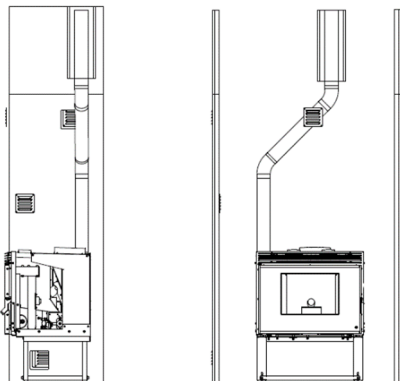

Figure 3 - View installation with chimney
- As shown in figure 3, the installation of the pellet insert brings the exhaust pipe (ϕ 80 mm) directly into the chimney. If the chimney is too large, it is recommended to pipe the gas outlet with a pipe with a minimum internal diameter of 80 mm.